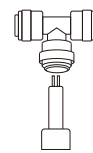

Figure 2
3. The sensor probe end should be inserted into the T-head position respectively. (Figure 2)